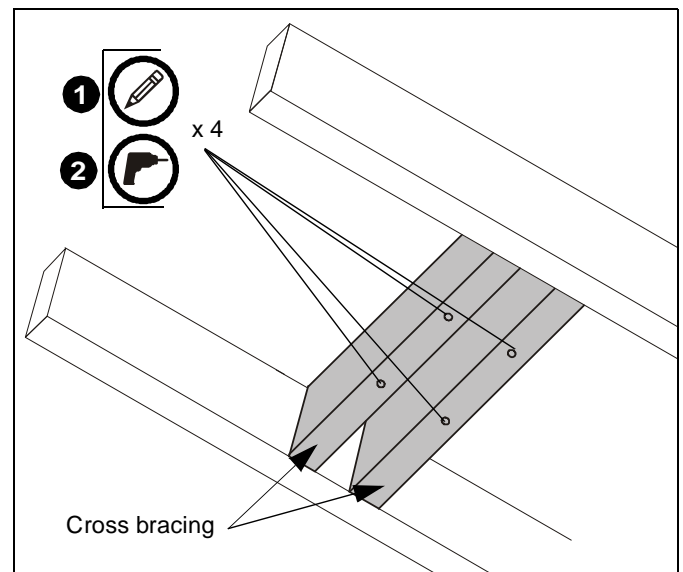

Figure 3
1. Using ceiling plate (A) as a template, mark locations of four pilot holes (See Figure 3). Ensure the marks are in the center of wood joists.
2. Drill 7/32" diameter pilot holes into wood stud cross bracing. (See Figure 3) Ensure pilot holes are straight.